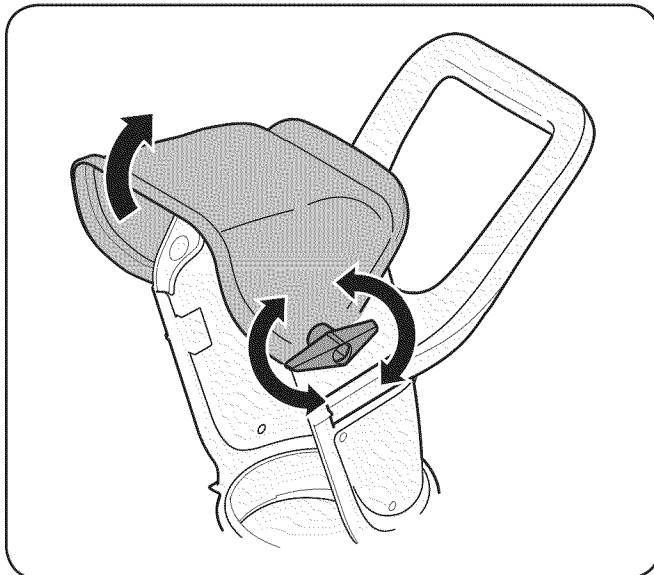

Figure 3-1
2. Loosen the wing knob on the upper chute and pivot the upper chute upwards as far as it will go. Then tighten the wing knob on the upper chute making sure the carriage bolt is correctly positioned. Refer to Fig. 3-1.